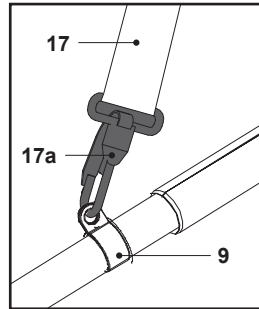

Fig. 8
- Lock the harness (17) onto the loop (9) by the securing clip (17a) (Fig. 8).